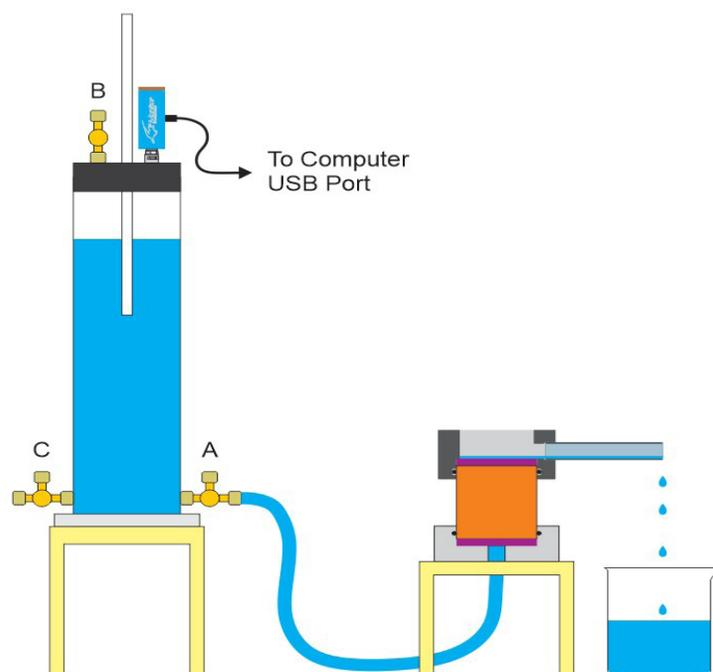

Fig. 21
Make sure that the system is set up correctly. Valves A, B and C should all be closed (Fig 21).
- Click the “Start” button to start a measurement (Fig 21).